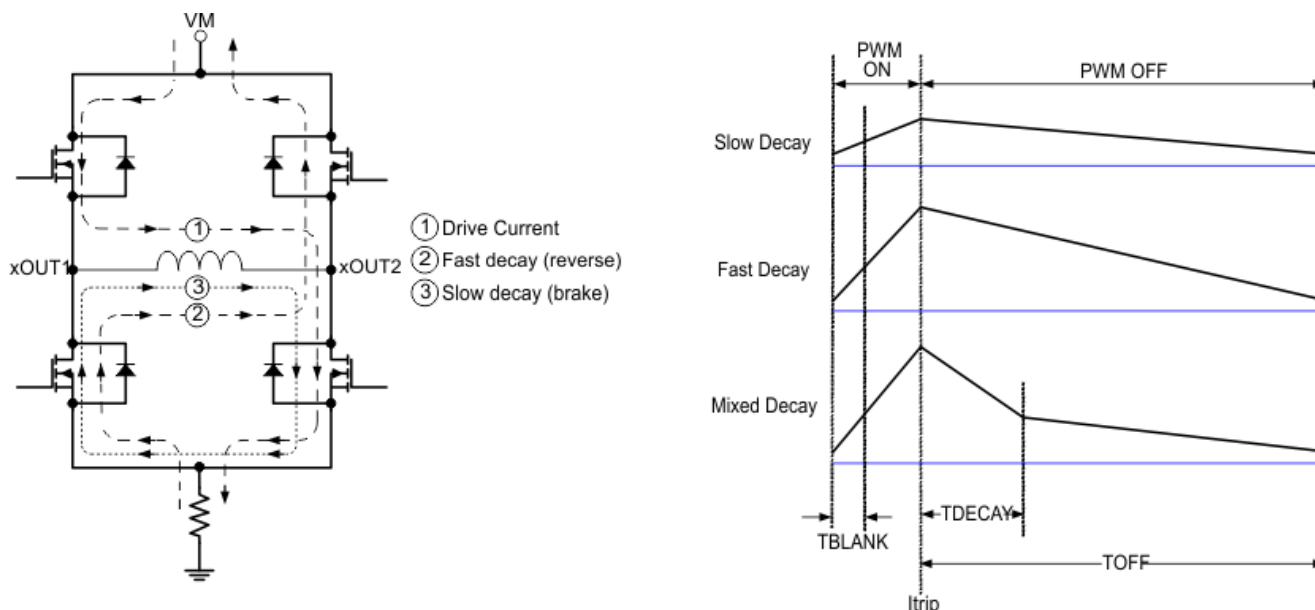

Figure 7-5. Decay Modes
During PWM current chopping, the H-bridge is enabled to drive through the motor winding until the PWM current chopping threshold is reached. This is shown in Figure 7-5, Item 1.
Once the chopping current threshold is reached, the H-bridge can operate in two different states, fast decay or slow decay. In fast decay mode, once the PWM chopping current level has been reached, the H-bridge reverses state to allow winding current to flow in a reverse direction. Fast decay mode is shown in Figure 7-5, item 2. In slow decay mode, winding current is re-circulated by enabling both of the low-side FETs in the bridge. This is shown in Figure 7-5, Item 3.